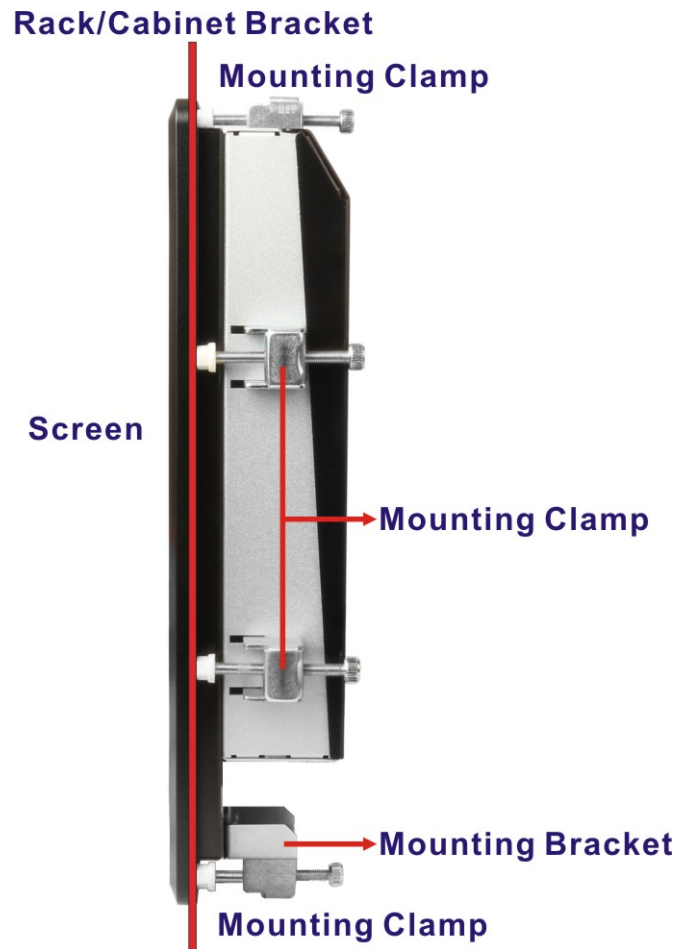

Figure 3-36: Secure the Rack/Cabinet Bracket
Step 3: Insert the mounting clamps into the mounting brackets and pre-formed holes along the edges of the PPC-FxxA-H81, behind the aluminum frame (**Figure 3-36**). The required number of mounting clamps may vary by models.
Step 4: Tighten the screws that pass through the mounting clamps until the plastic caps at the front of all the screws are firmly secured to the bracket (**Figure 3-36**).